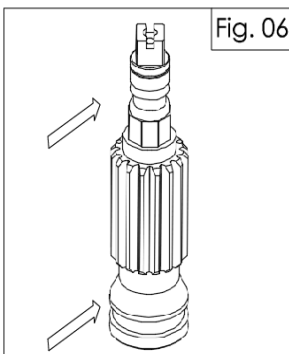

Fig. 06
A) Drive shaft assembly (part NO.23), figures 06 and 07
- Install top and bottom pinion bearings (20) and (24) and top and bottom pinion O-rings(25) and (19) onto the shaft.
- Grease the outside surface of the drive shaft on top and bottom as shown in figure 06.